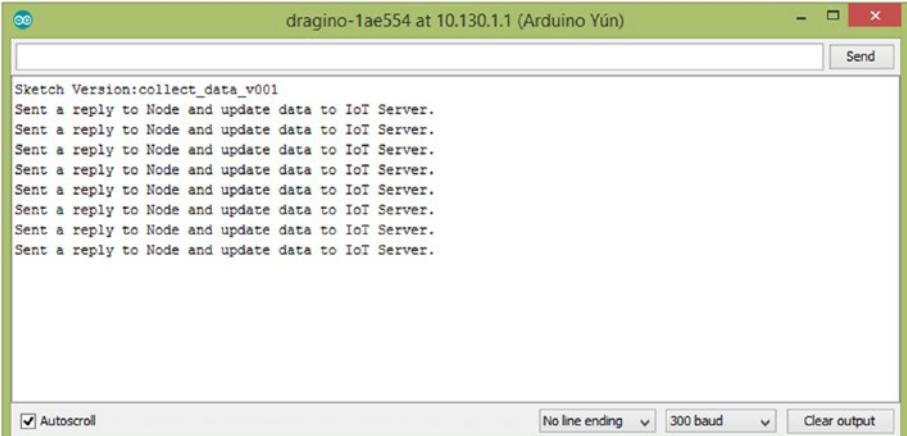

Figure 7-20. Reset/Toggle button
10. After uploading the sketch, press the Reset (toggle) button in the LG01 gateway (Figure 7-20). You can use a small paper clip to access the Reset button placed inside the enclosure by inserting it through the hole.